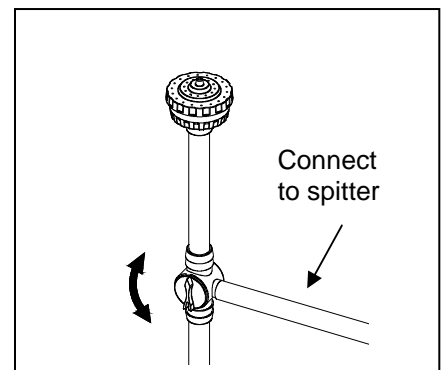

Fig. 5
5. Adjust the diverter valve to split the flow between the fountain head and the spitter. Fig. 5